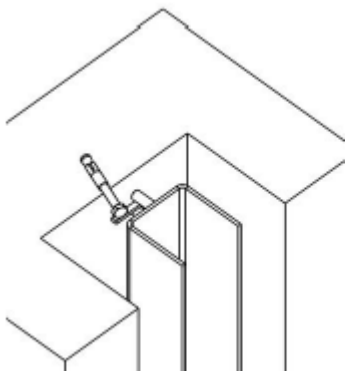

Fig. 7
- Depending on size and weight of Water Control Gate, 2-3 dowels per side should be set into the recess and bolts be inserted (Fig.7).
- Connect anchor and dowel bolts in the recess with a bar profile by welding (Fig. 7).